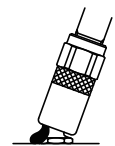

Fig.3
- 3) For easily remove of the coupler from the fitting, slightly slant the coupler to release inside pressure. (Fig.3)